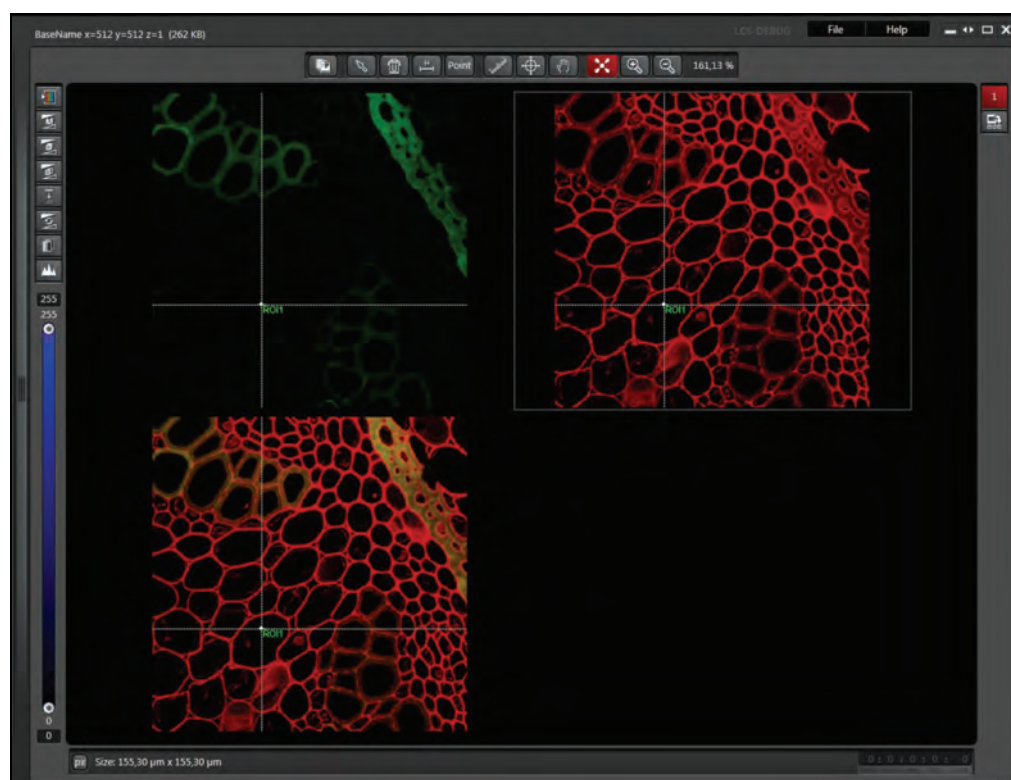

Figure 175: Selecting the measuring points
1. First, use the image display to find a measuring point in the image. Move the crosshair in the image display to the desired position (**Figure 175**).